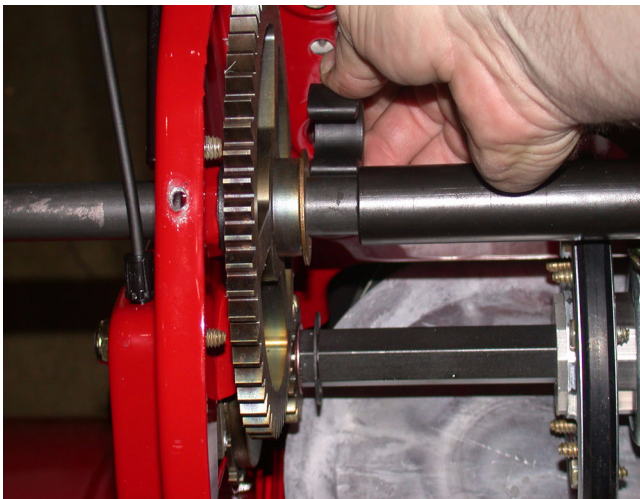

Figure 9.3
- 9.3. Carefully pry the 2 split bushings from the axle. See Figure 9.3.